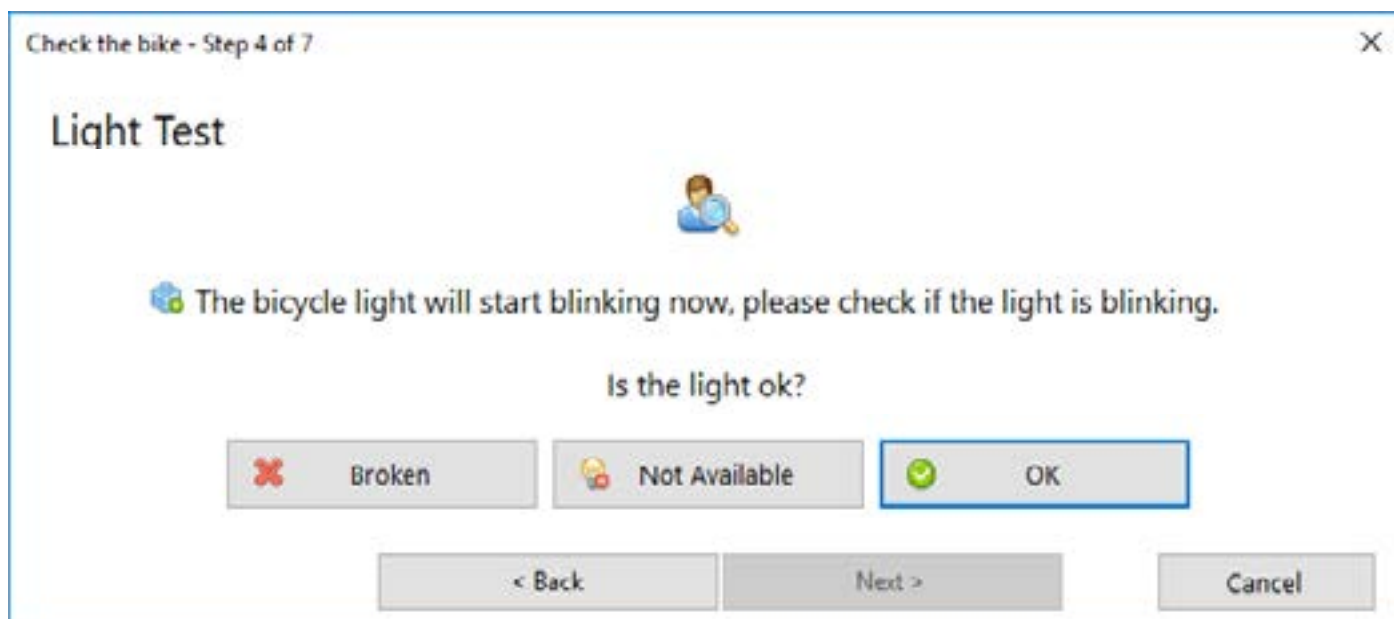

Figure 3.53 Light test
4. **Light test** – if the bike has lights powered by the e-bike battery, both lights will flash. Verify that they are operating correctly and confirm by clicking on “OK” (functional) or “Broken” (non-functional). If the bike does not have lights, click on “Not available” (Fig. 3.53).